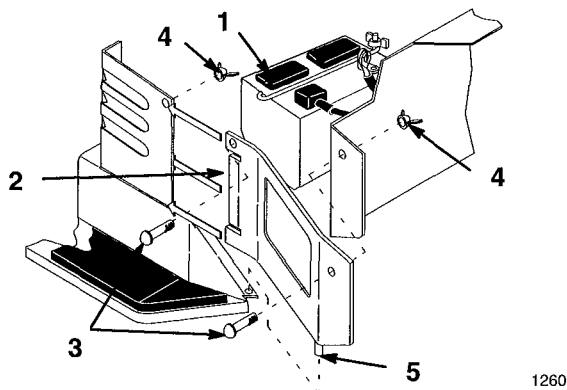

Figure 35
3. Remove side panels for clearance when removing battery (Fig. 35). Remove the wing nuts and screws and lift up to clear pin and slide panel tabs out from steering tower.
7. Install the battery into the chassis (Fig. 35).
11. Install side panels by sliding tabs into steering tower and inserting pin into flange of footrest. Secure with screws and wing nuts (Fig. 35).